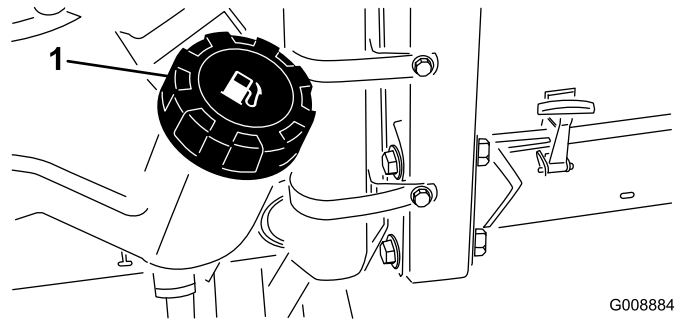

Figure 28
1. Clean the area around the fuel-tank cap (Figure 28).